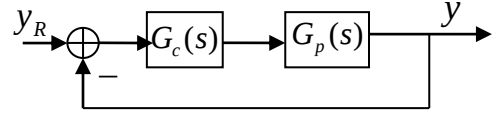

Figure 1 Unity feedback block diagram.
Recalling that $G_c(s)G_p(s)$ is the open loop transfer function associated with Figure 1, is the reason for defining the fictitious open loop system (3). Using the Matlab command `rlocus(Q)` will give us a plot of the roots of the corresponding fictitious closed loop system that has roots associated with (1).